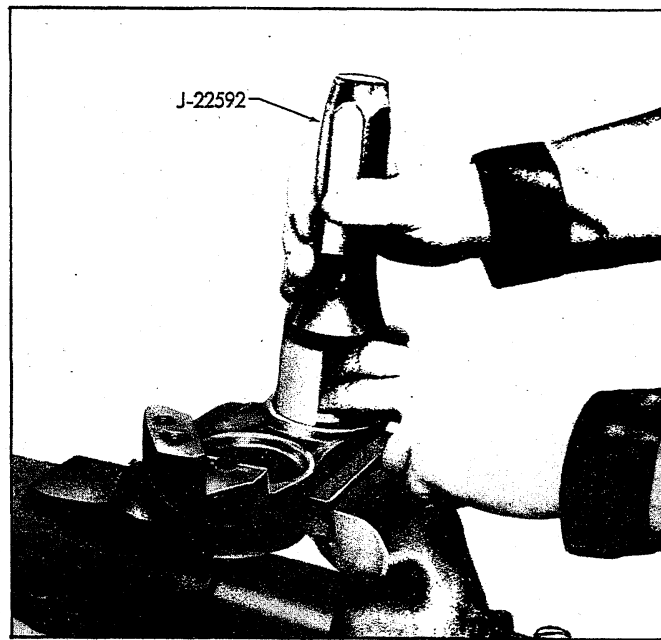

Fig. 41—Installing Boot Seal in Caliper Bore Using Tool J-22592
7. Position applicable boot seal installer Tool J-22592, J-22628, or J-22638 over the piston and seat the steel boot retaining ring evenly in the counterbore as shown in Figure 41. The boot retaining ring must be flush or below the machined face of the caliper. Any distortion or uneven seating could allow contaminating and corrosive elements to enter the bore.